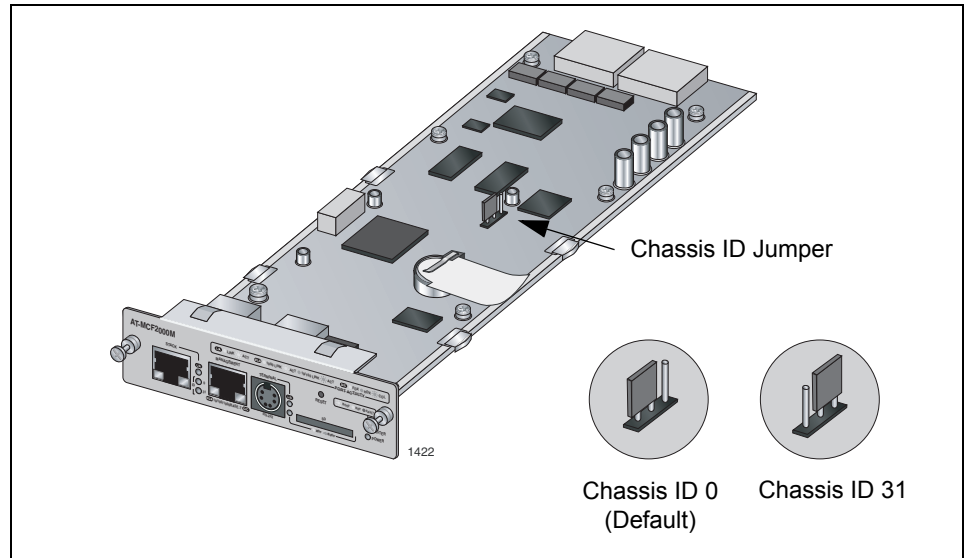

Figure 55. Setting the Chassis ID Jumper on the AT-MCF2000M Management Module
- If you plan to build a stack that will have two management modules, you must change the chassis ID number of one of the modules from the default setting 0 to 31 as shown in Figure 55. If there will be just one management card in the stack, you can leave the jumper at the default setting. For background information, refer to “Chassis ID Jumper” on page 66 or the *AT-S85 and AT-S97 Management Software Command Line User’s Guide*.